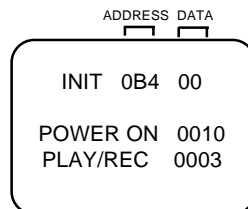

Fig. 1
2. While holding down VOLUME button on front cabinet, press key 6 on remote control for more than 2 seconds. ADDRESS and DATA should appear as FIG 1.